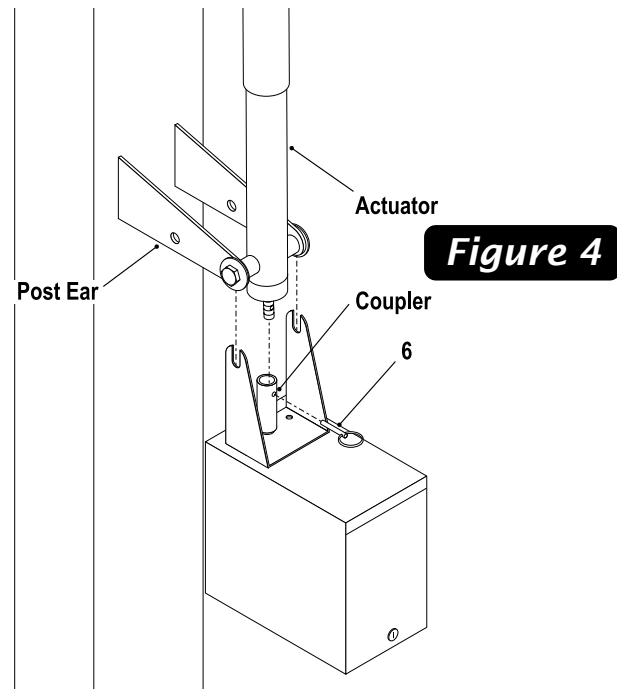

Figure 4
5. Loosen, **DO NOT REMOVE**, bolts securing actuator to post ears. See Figure 4.
6. Slide POD brackets between flatwasher and plastic washer. Secure POD Coupler to actuator by inserting Pull Pin (#5). See Figure 4.